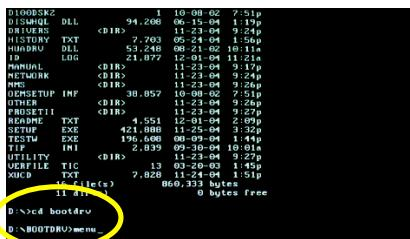

Fig.1
Step 1: Insert the prepared startup disk and motherboard driver CD-ROM in your system. Boot from the startup disk. Once at the A:> prompt, change to the CD-ROM drive (example: D:>). At the D:> prompt, type the following two commands. Press ENTER after each command (Fig.1):